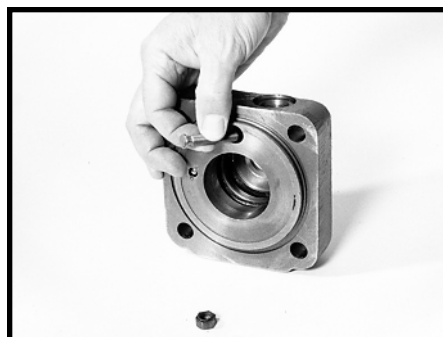

Figure 121
NOTE: More recent models of the HFB64 have a 5/16 24-2A poppet adjusting screw (2A) in the valve housing (9). This screw has an enlarged end. If your gear is equipped with this screw you must install the sealing nut (3A) onto the end of the screw after you assemble the screw into the valve housing. SEE FIGURE 121.
NOTE: If your gear is equipped with the 5/16 24 UNF 2A poppet adjusting screw (2A), assemble the screw from the inside of the valve housing. The screw should be run out until just before the enlarged end of the screw bottoms on the counterbore of the valve housing. Then assemble sealing nut (3A) with the seal facing the housing. SEE FIGURES 121, 122.